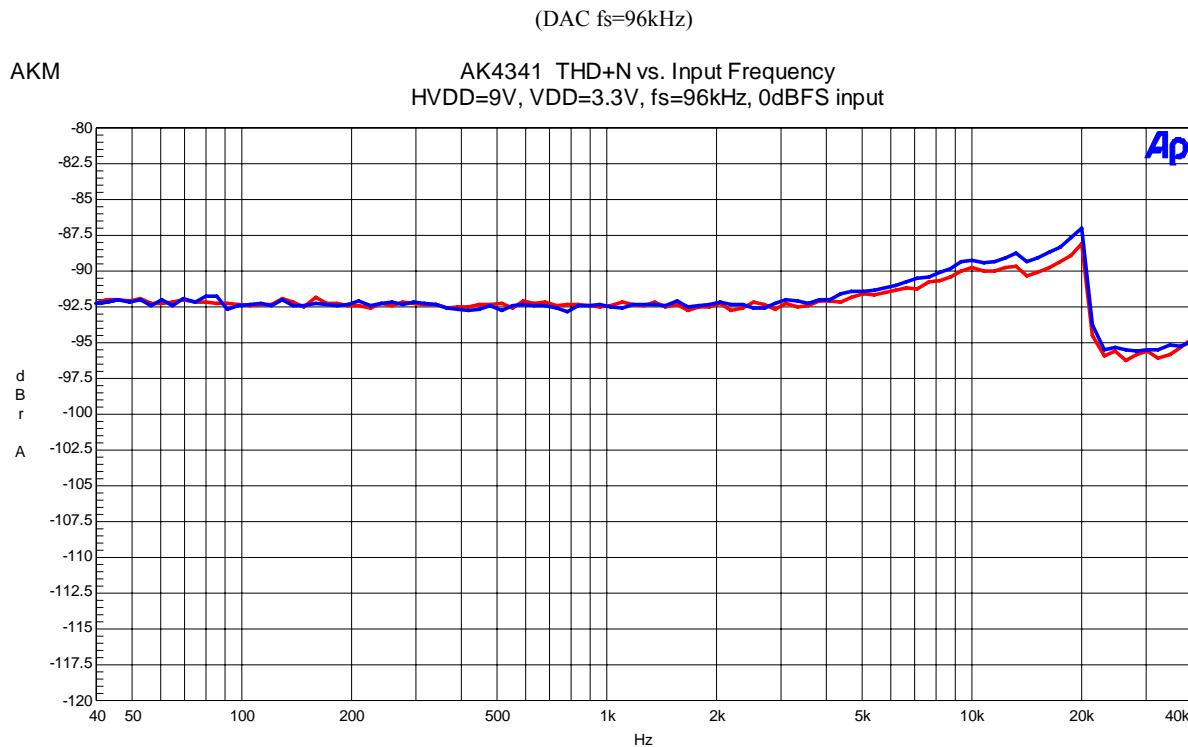

Figure 23. THD+N vs Input Frequency (Input Level=0dBFS)
- Figure 23. THD+N vs fin (Input Level=0dBFS)